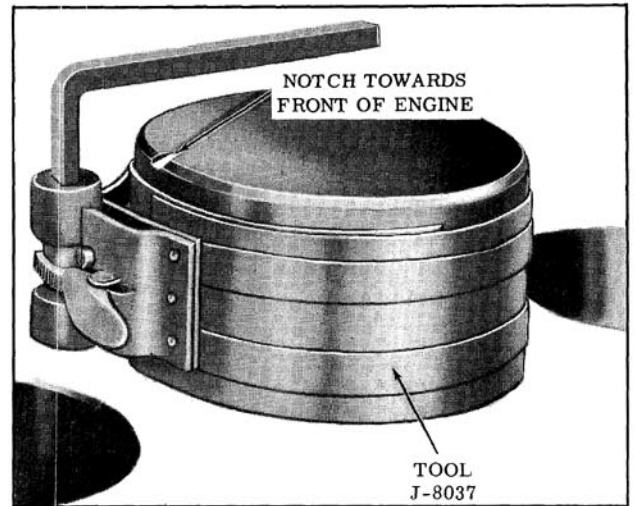

Fig. 3-85 Piston Ring Compressor
2. Apply SAE 10W30 oil to rings and piston, then install piston ring compressing tool on piston. (Fig. 3-85)